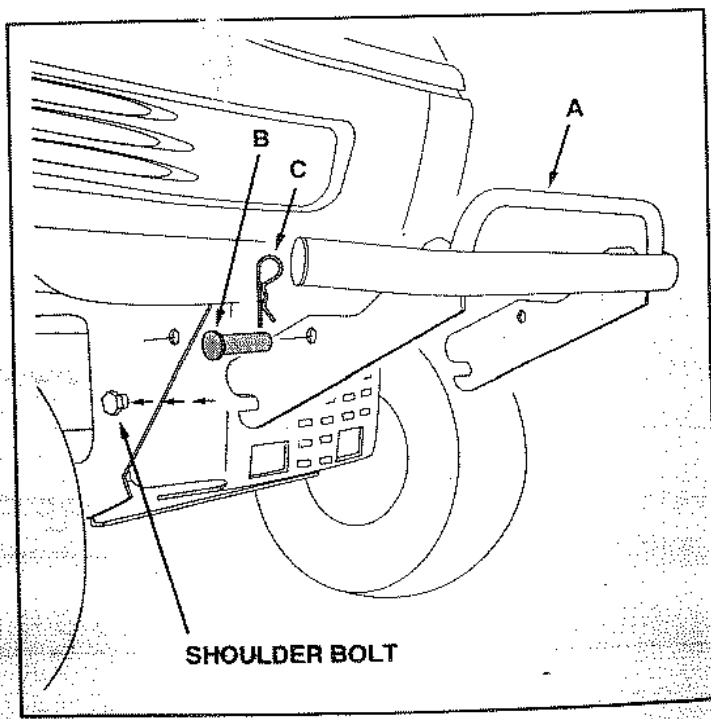

FIGURE 2
- (A) Bumper Tube Assembly (Fig. 2)
- To mount the bumper to the tractor, hook the notched ends of the bumper (A) onto the shoulder bolts on the sides of the tractor frame. Align the holes in the bumper with the holes in the tractor frame and insert the clevis pins (B) through the aligned holes. Secure the pins in place with the hair cotter pins (C). See figure 2.